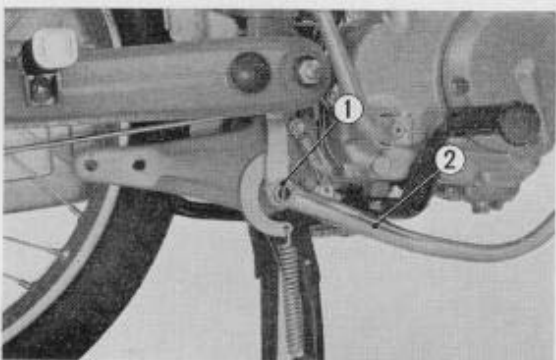

Fig. 4.61 Removing 3 mm cotter pin.
- (3) Remove the 3 mm cotter pin ① from the rear brake pivot pipe (Fig. 4.61)
- (4) Remove the rear brake adjusting nut and remove the brake rod from the rear brake arm.
- (5) The rear brake pedal can be removed by pushing the rear brake pivot pipe into the hole by tapping with a rod and a hammer. (CD 90 & C 90)